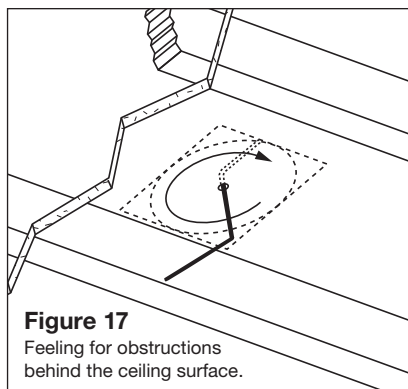

Figure 17
3. Cut a foot long piece of coat hanger. Bend the wire (creating a right angle) leaving 5-1/2" at one end (this allows for the extra width of the mounting dogs). Poke the "L-shaped" wire into the pilot hole and turn it in a complete circle and move it into the ceiling cavity to make sure you have approximately 3-3/4" of depth. If the coat hanger movement is obstructed by anything, fill the hole(s) with spackle and try another location. **(See Figure 17).**